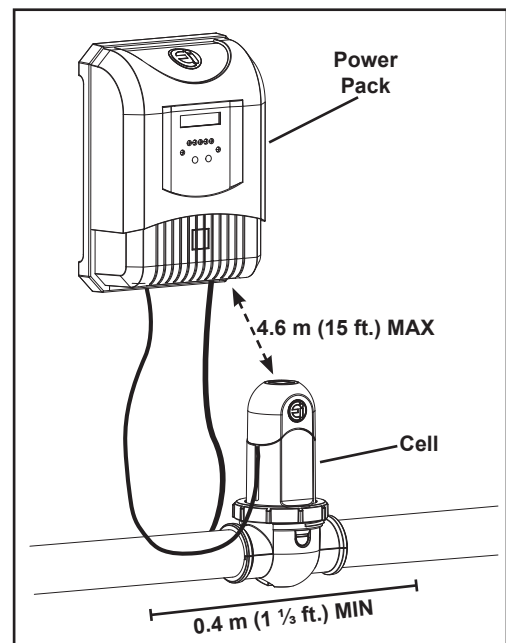

Figure 3. Installation Requirements
- The cell must be installed on a 0.4 m (1 ½ ft.) horizontal length of pipe after the heaters, pumps, and filters, as the last piece of equipment in the circulation plumbing system just before the pool (see Figure 3).
- The cell must be installed no more than 4.6 m (15 ft.) from the power pack (see Figure 3).